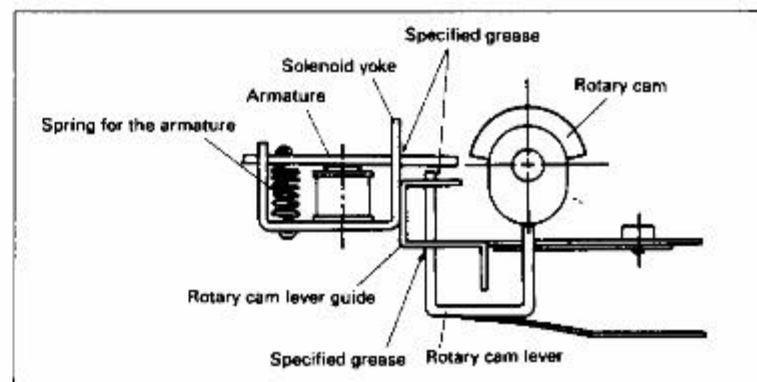

Fig. 6-1
- 2-2. Squeezed between the rotary cam lever and the rotary cam lever guide, the rotary cam lever does not move smoothly. (Fig. 6-1)